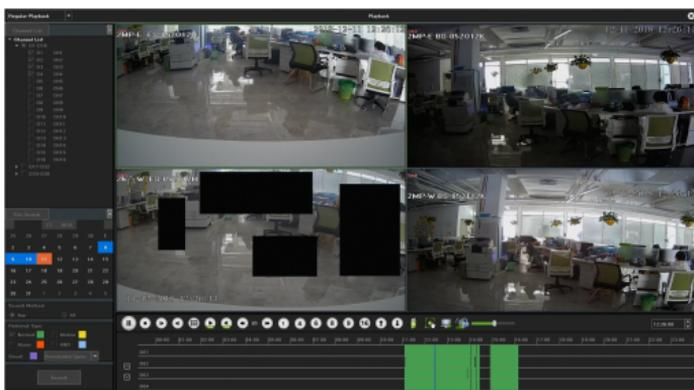

Figure 4.3 Video Playback
- 3) Click on the  button to start playback, as shown in Figure 4.3.